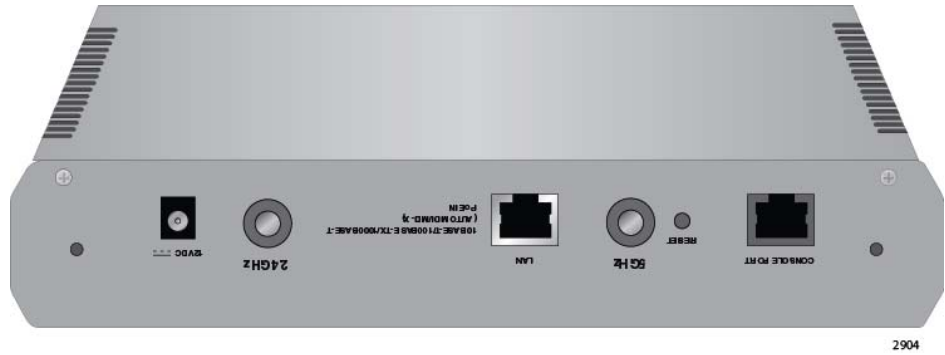

Figure 19. Rear Panel Upside Down
1. Place the AT-TQ2450 Access Point upside down on a table or desk, with the rear panel facing you. Refer to Figure 19 on page 42.